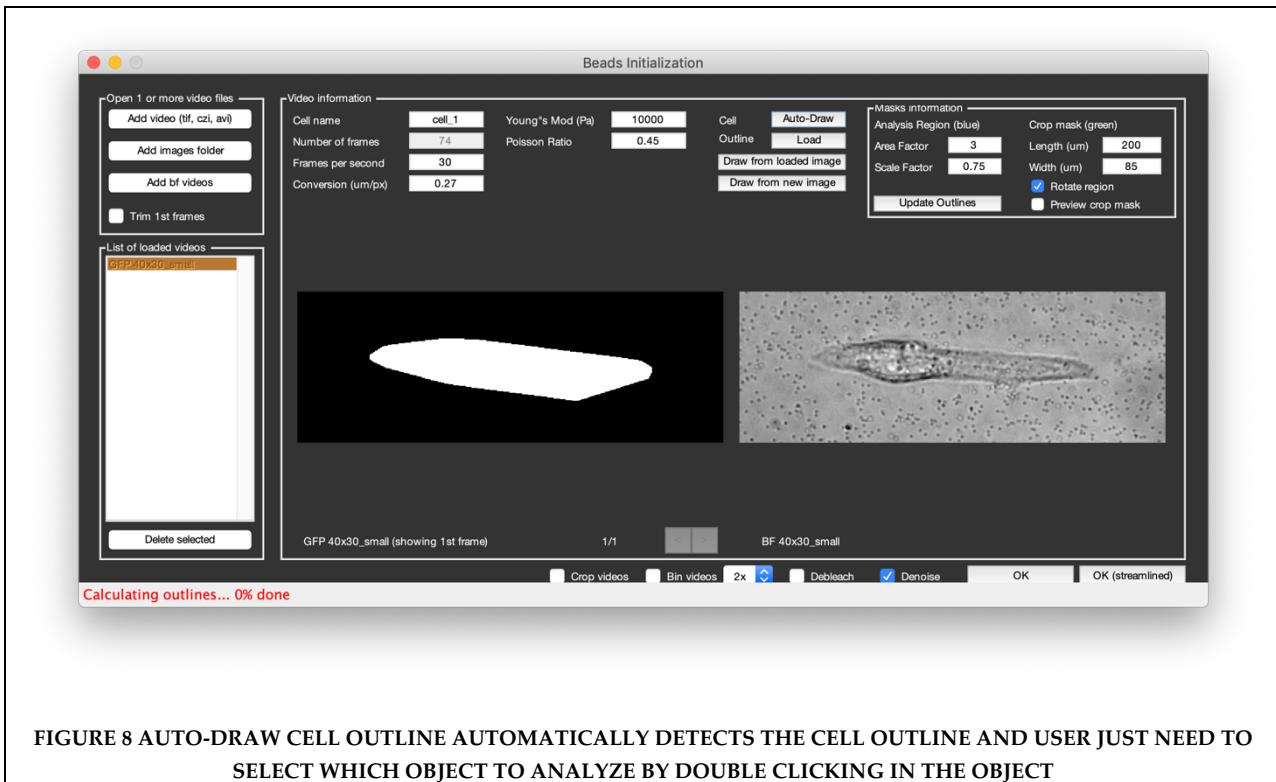

FIGURE 8 AUTO-DRAW CELL OUTLINE AUTOMATICALLY DETECTS THE CELL OUTLINE AND USER JUST NEED TO SELECT WHICH OBJECT TO ANALYZE BY DOUBLE CLICKING IN THE OBJECT
- a. *Auto-draw*: The software uses a built-in algorithm to automatically detect cell objects and outline in the brightfield/fluorescent image for each video sequentially. The user just needs to select in each black and white mask image which object to outline (Figure 8). Once the stack of videos is processed, the user can refine the outlines manually using the option below. The process can also be programmatically fully automated (from within the code), but, as currently implemented in the code, will only be able to select the one object detected in the center of the image frame.